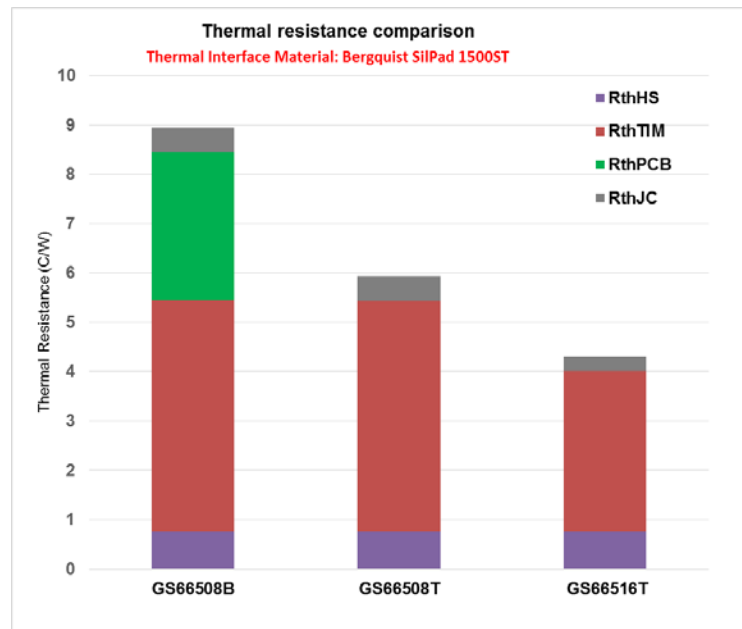

Figure 9 Evaluation board thermal resistance comparison
5. The TIM we use on this assembly is Berguist® SilPad 1500ST, the measured total thermal resistance can be found in Figure 9. Compared to a bottom-cooled design, the top-side cooled package eliminates the PCB thermal resistance and significantly improve the thermal performance. Thermal grease is typically not needed on the assembly. If thermal grease is applied, use non-conductive and non-capacitive type thermal grease.